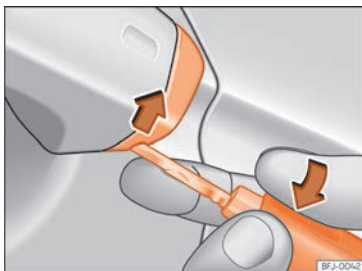

Fig. 86 Driver door handle: lever the cover off
- Insert the key shaft into the lower opening in the cover on the driver door handle »» Fig. 86 then remove the cover upwards.